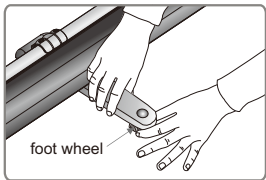

Figure 11
5. Adjust the foot wheel when the ground is not even. To be exact, clockwise rotation raises the foot while counterclockwise rotation lowers the foot, with limits of five circles or within 8mm (Figure 11 - 12).